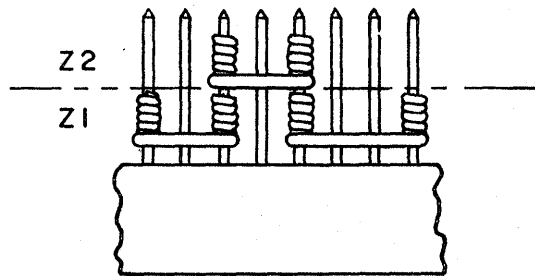

FIGURE 5.7-6. 'Z' LEVELS
The 'Z' Level (Figure 5.7-6) depicts the physical location of the wire wrap on a connector block pin. Two wire wraps are permitted to one pin. The 'Z' Level is applicable to Back Plane wires only. Vertical Character Position 25 is used to designate the 'From' pin 'Z' Level, and Vertical Character Position 36 is used to designate the 'To' pin 'Z' Level. The ground strip pins are allowed one (1) wrap only; the level is assigned as Z1 automatically.